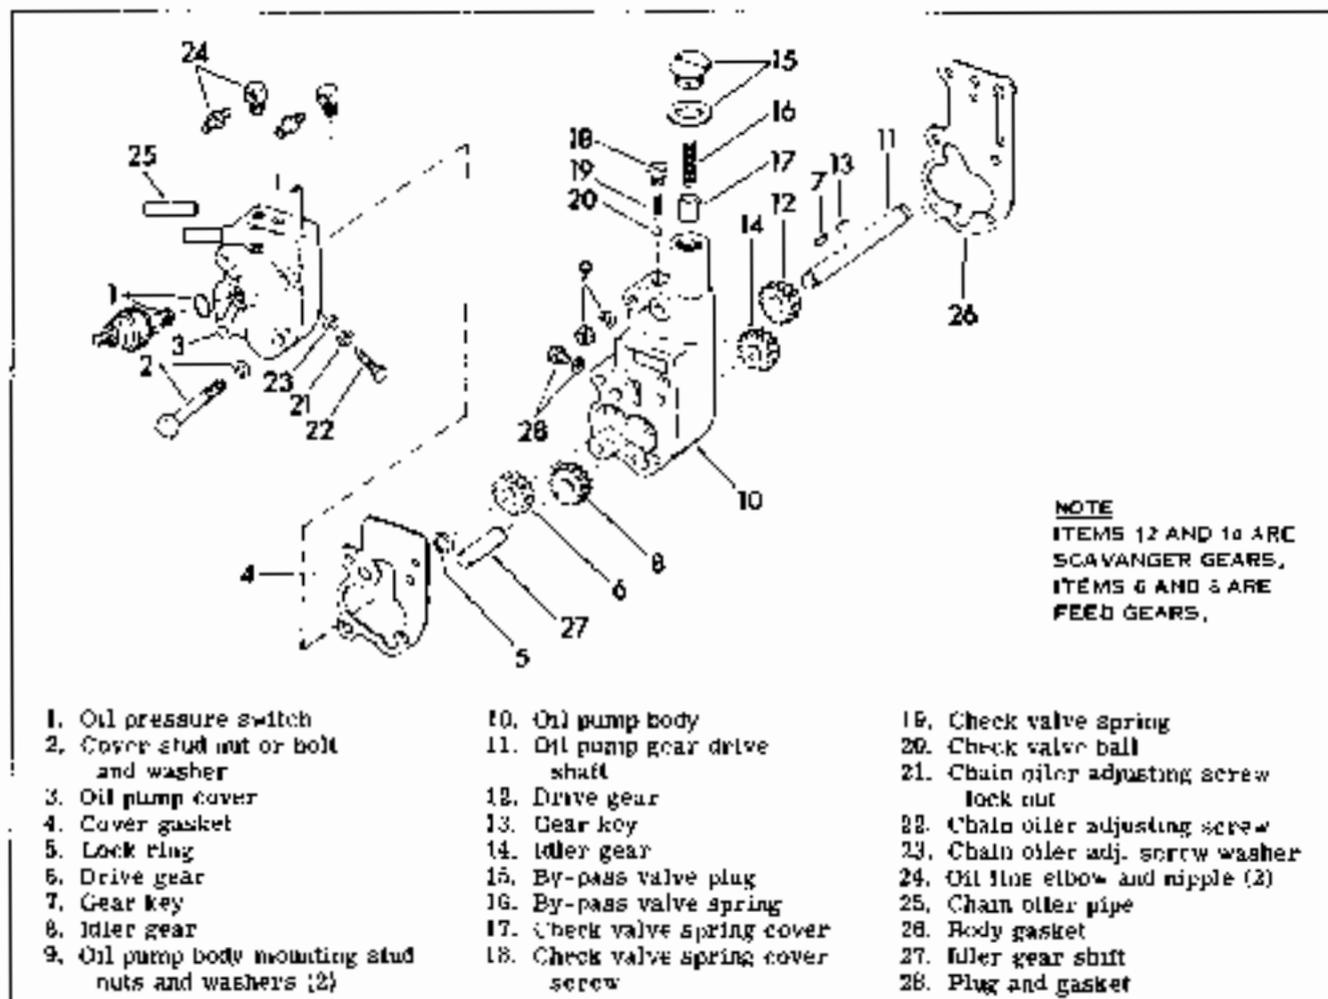

Figure 3-22. Oil Pump - Exploded View
DISASSEMBLING (Figure 3-22)
Disconnect oil lines and oil pressure switch (1) from pump. See Figure 3-22. Remove bolts and lock washers (2) from gearcase studs, that hold oil pump cover in place. Remove oil pump cover (3) and gasket (4). Remove lock ring (5), drive gear (6), gear key (7) and idler gear (8). Remove two oil pump body mounting stud nuts (9) and slip pump body (10) off studs and gear drive shaft
(11). Remove drive gear (12), key (13), and idler gear (14).